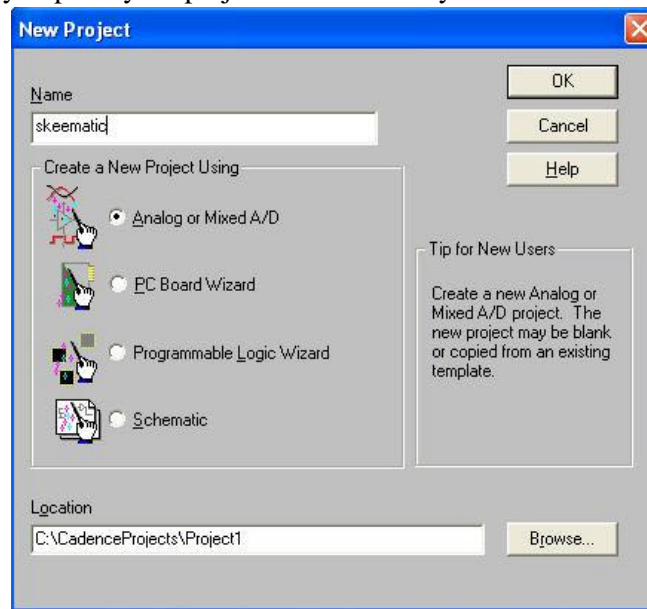

Figure 2 - New Project Window
- c) Select File -> Project. From the New Project window, give your project a name, select “Analog or Mixed A/D”, and select its location (see Figure 2). You’re now ready to create your schematic.